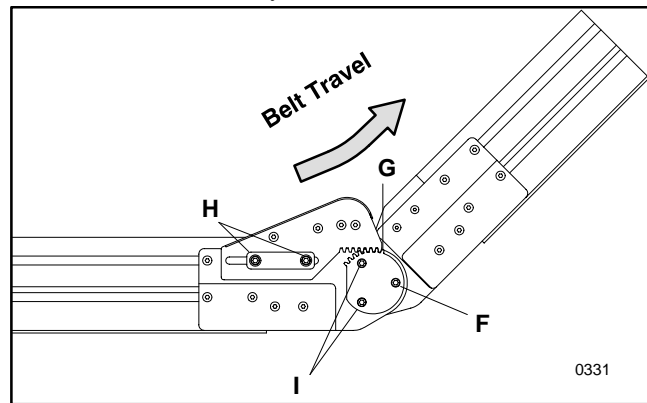

Figure 8: Horizontal to Incline or Lower Z-Frame Angle Adjustment Detail
2. Refer to Figure 8 and remove and retain the special-colored, “0° Angle” screws (F) from the pivot gear on both sides of the conveyor.